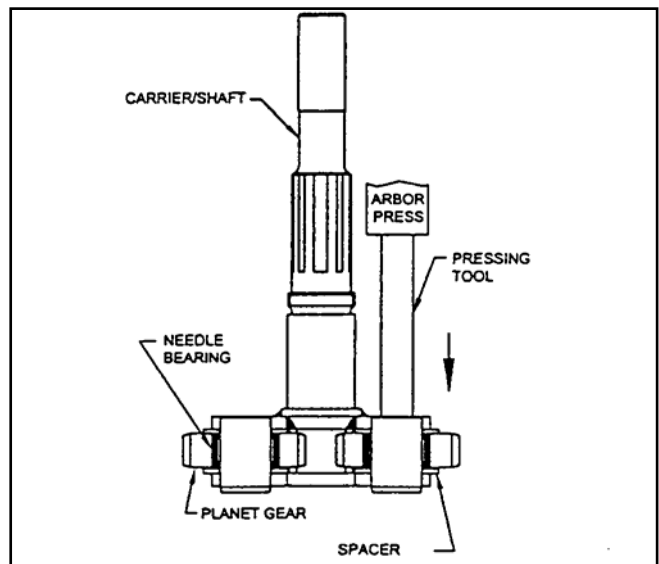

Figure 5. Carrier Shaft Disassembly
Place carrier shaft/gear assembly on arbor press with shaft up. With carrier shaft (26) supported, press each planet shaft (27) out opposite the spline shaft. Refer to figure 5.